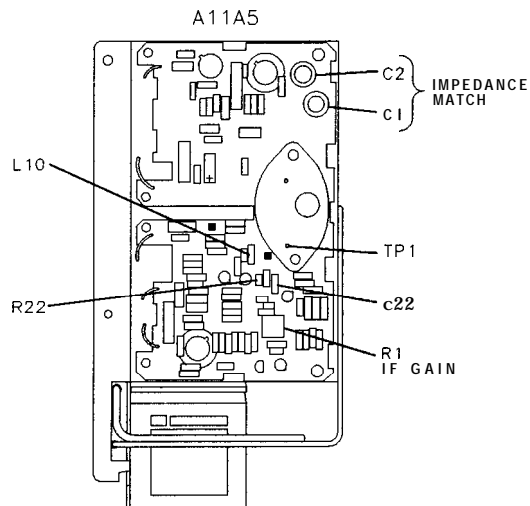

Figure 3-73. A1 1A5 Adjustment Locations
30. Remove the cover from A11A5 YTO Loop Sampler Assembly. Locate DRIVER MATCHING adjustments A1 1A5C1 and A1 1A5C2, SAMPLER DC test point A11A5TP1, and IF GAIN adjustment A11A5R1. These parts are indicated on the cover of the A11A5 YTO Loop Sampler Assembly and in Figure 3-73.
If **A11A5R1** IF GAIN does not have sufficient adjustment range, change the value of factory-select component **A11A5L10**. An increase in the value of **A11A5L10** will increase the IF OUT power level at **A11J5** IF OUT. Refer to Table 3-3 for the acceptable range of values for **A11A5L10**, and to Table 3-4 for HP part numbers. See Figure 3-73 for the location of **A11A5L10**.
If the power level of the displayed fundamental below 20 MHz is too low, decrease the value of factory-select component **A11A5C22**. If the power level of the displayed fundamental between 20 MHz and 30 MHz is too low, decrease the value of factory-select component **A11A5R22**. If the power level of the displayed fundamental above 30 MHz is too high, increase the value of factory-select component **A11A5L10**. Refer to **Table 3-3** for the acceptable range of values for **A11A5C22**, **A11A5R22**, **A11A5L10**, and to **Table 3-4** for HP part numbers. See **Figure 3-73** for the location of **A11A5C22**, **A11A5R22**, and **A11A5L10**.